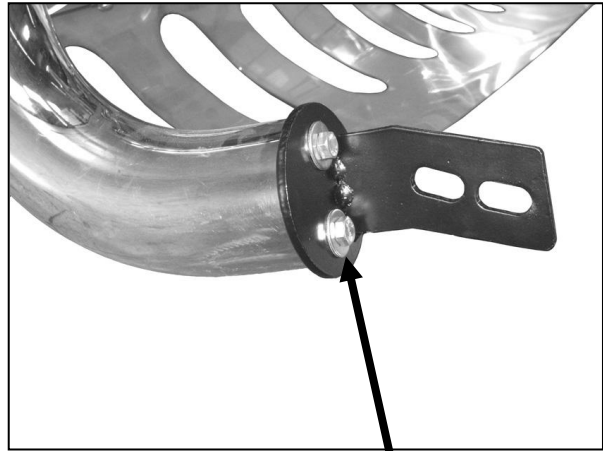

Figure 2
- 6.** Loosely attach Bull Bar Brackets to Bull Bar using the included (4) 8mm x 25mm Hex Head Bolts, (4) 8mm Lock Washers, and (4) 8mm Flat Washers (**Figure 2**). Do not tighten at this time.